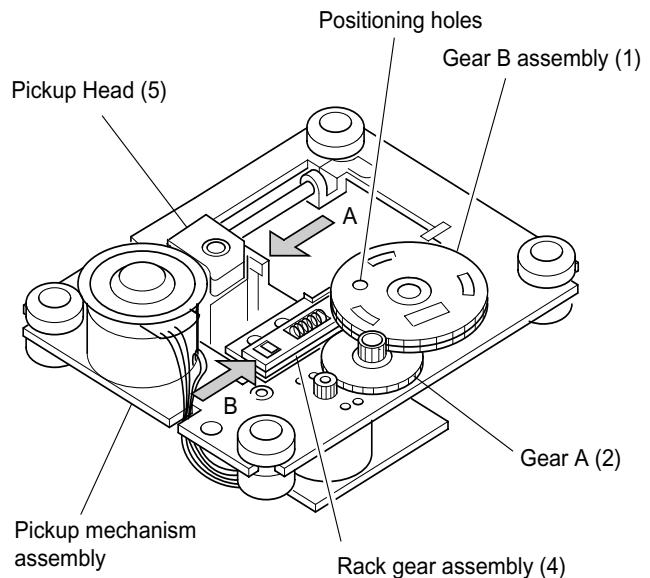
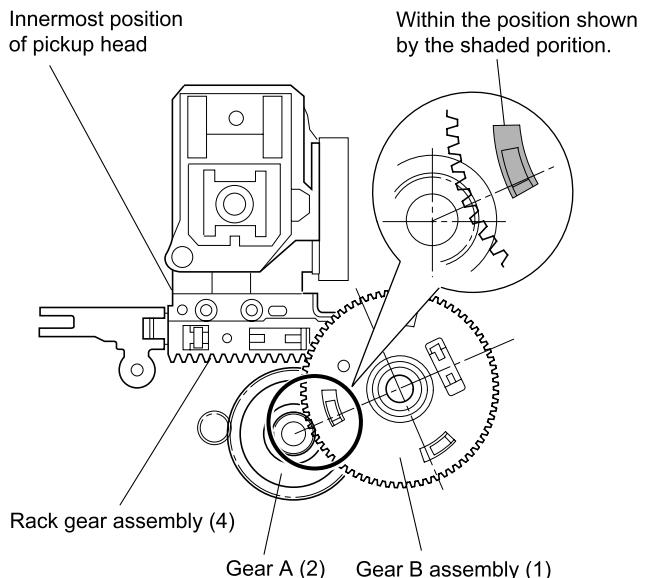

Fig. 2-1-21
Fig. 2-1-22
2. Mount the gear B assembly (1) by pushing the pickup head (5) to the disc motor side (arrow A direction) and shifting the upper gear of the rack gear assembly (4) in the arrow B direction. (Refer to Fig. 2-1-21.)
3. Fit the positioning holes on the upper gear and lower gear of the gear B assembly (1) and mount on the pickup mechanism assembly with the phase matched.
At this time, note that the phase of the gear B assembly (1) and the gear A (2) shows the status in the Fig. 2-1-22.